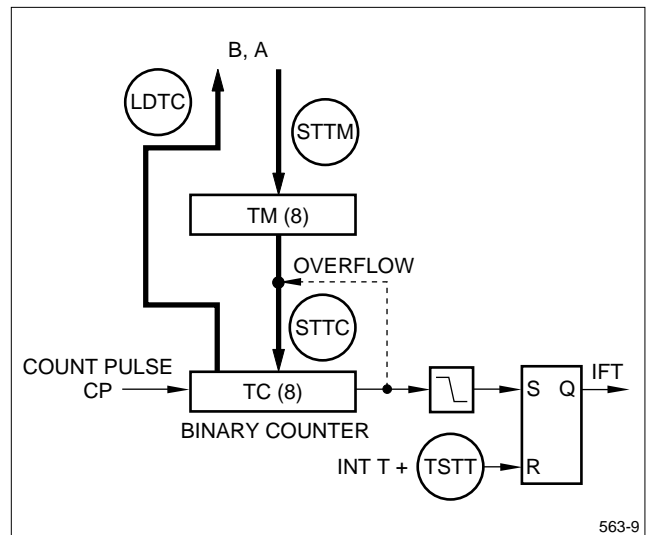

Figure 8. Timer/Counter
The count pulse Cp can be selected from divider signals  $f_{1n}$ ,  $f_8$  and  $f_0$ , and the system clock, by using the mode register RD. If the count register (TC) overflows, the SND flag reverses its status at the falling edge of the TC. A sound signal can be obtained at the TC output by putting P2 in output mode and sending a '1' to pin P23 (see Figure 8).